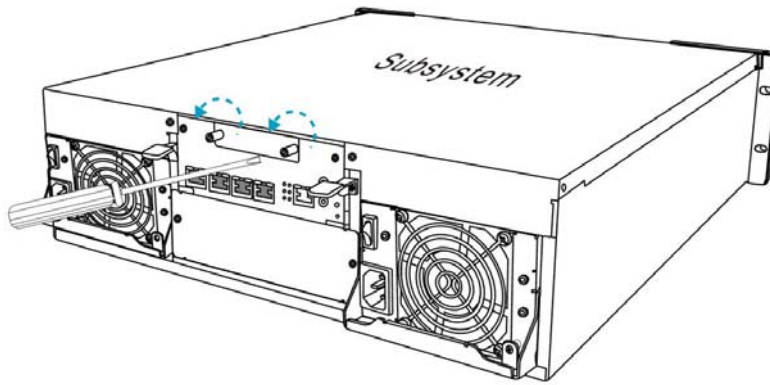

Figure 5-5: Remove the Retention Screws from BBU Faceplate
- Step 1. ***Remove the faulty BBU from the chassis.*** The BBU module is secured to the chassis with two (2) screws. Loosen the retention screws located at the sides of the BBU faceplate, then pull out the BBU. (See *Figure 5-5*)